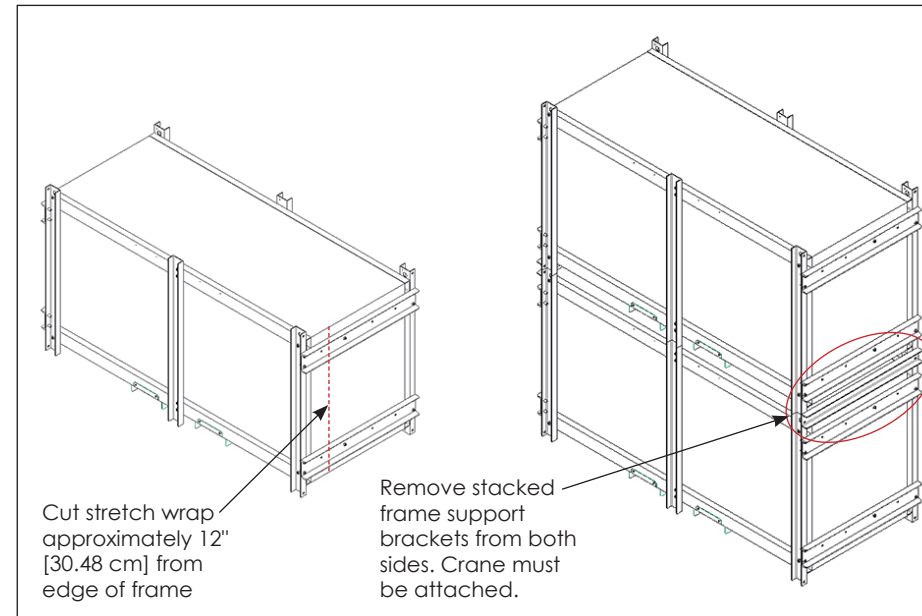

Figure 3: Separate and Unstack Frames
1. Remove the M12 hardware from the stacked frame support brackets on the frames to separate the top and bottom frames (if applicable). Unstack the frames and remove the stretch wrap and the top horizontal runners from the frames. Refer to **Figure 3**.